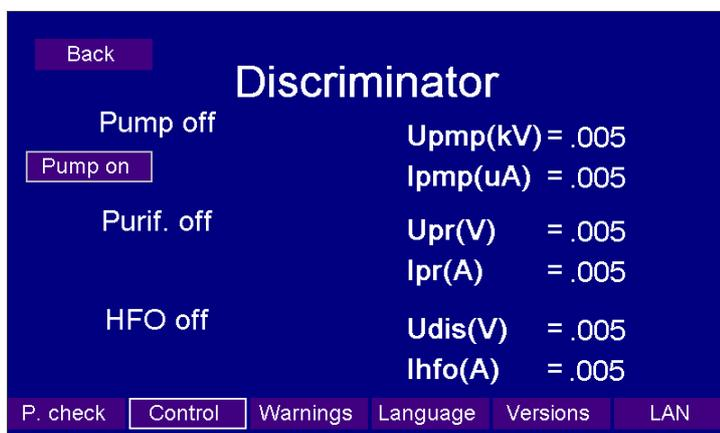

Figure 16. Submenu “Discriminator”, variant 1
1. Discriminator units are switched OFF (Fig. 16).